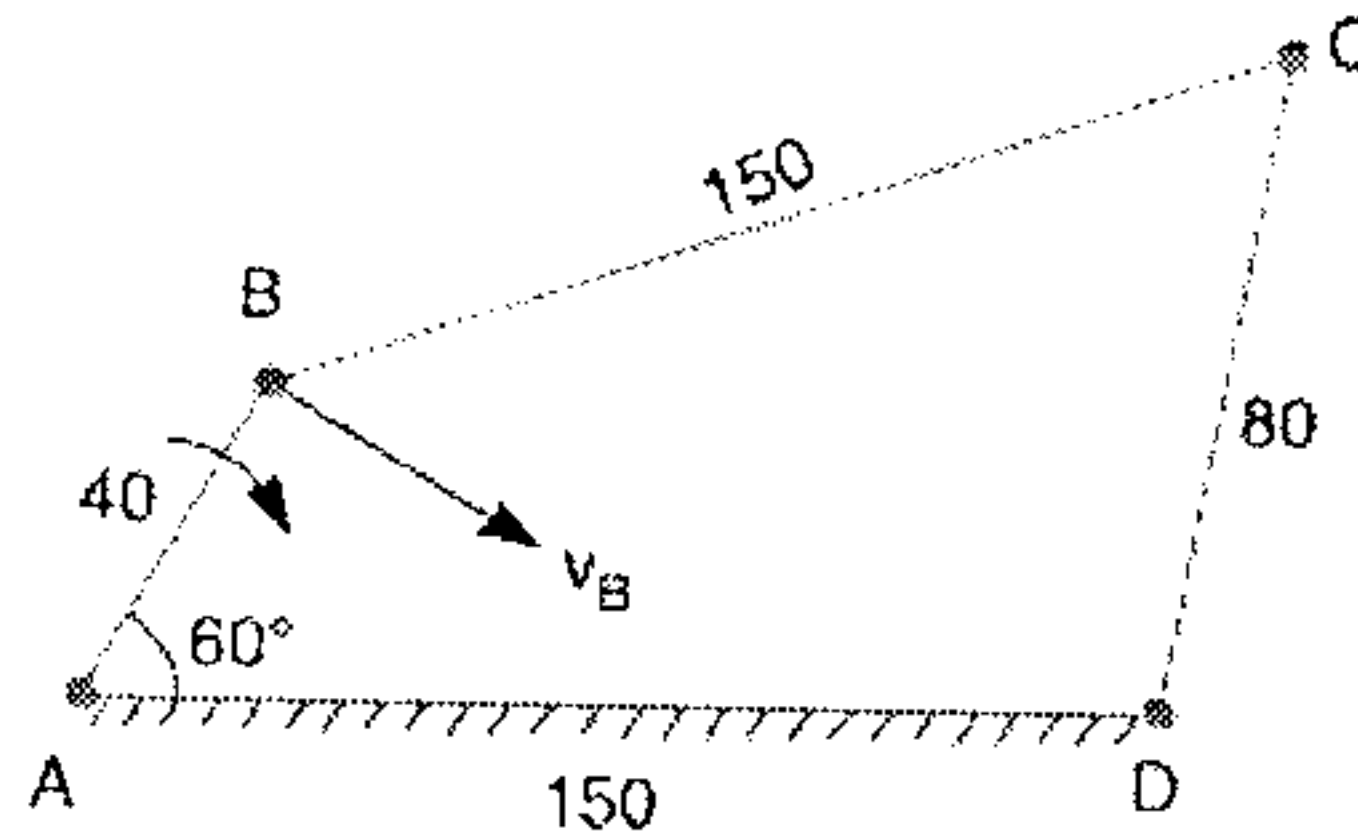

Figure 2
3. Determine the polode curvature for the coupler link of the four bar mechanism shown in Figure 2. All dimensions are in mm. 14 M